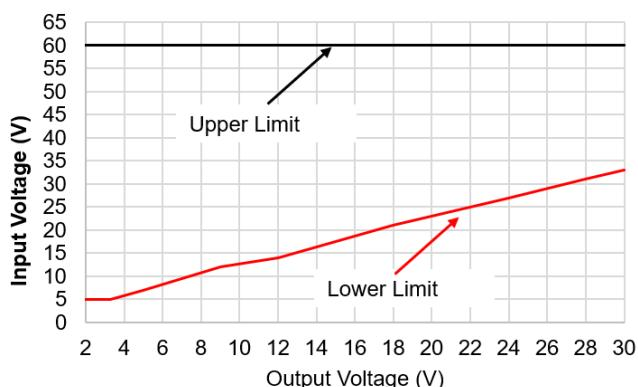
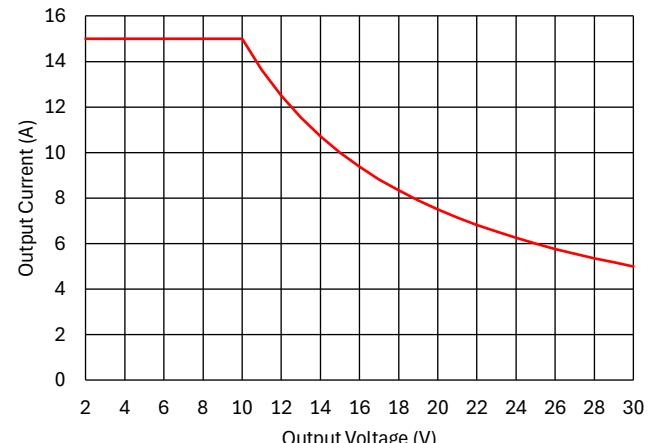

Figure 35. Graph showing maximum output voltage capability at different input voltages.
Figure 36. Graph showing maximum output current capability at different output voltages
Certain restrictions apply on the output voltage set point depending on the input voltage. Figure 35 shows the maximum output voltage capability for a given input voltage. Figure 36 shows the maximum output current capability. For constant operating the value of output power ( $V_{OUT} \times I_{OUT}$ ) should not exceed 150W.
The ProLynx2 power modules have a differential Remote Sense feature to minimize the effects of distribution losses by regulating the voltage between the VS+ and VS- pins (voltage across the  $R_{trim}$  resistor) to 0.6V. Connect VS+ to the parallel combination of R6 & C2, then route the trace differentially with VS- to desired output sense location (see Figure 36).
**Vout:** 14.1 – 30V (step down conversion only; based on value of VIN – See Figure 35).
**Vout:** 2 – 14V (step down conversion only; based on value of VIN – See Figure 35).